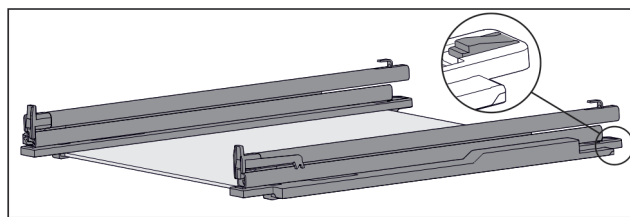

Fig. 115 Glass shelf with rails and retaining parts
- Press down retaining part at the rear (see Fig. 115) and at the same time push the rail back.